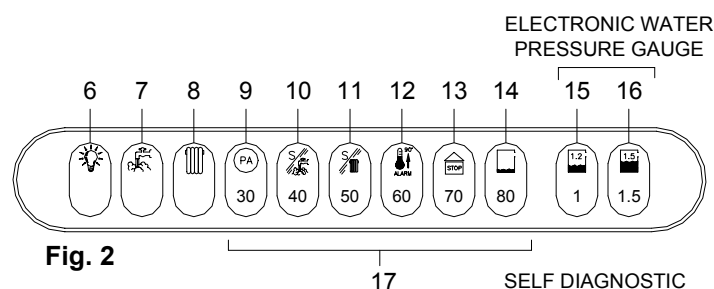
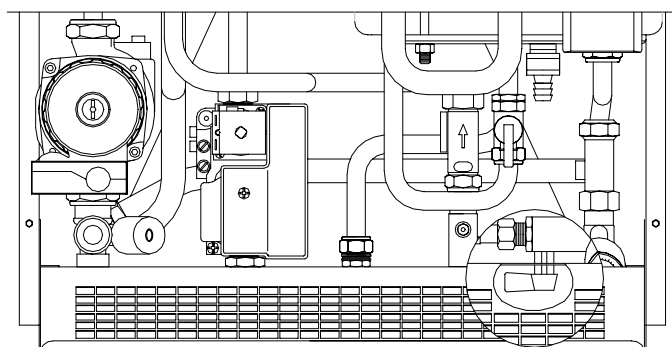

Fig. 2
Fig. 3
SELF- DIAGNOSTIC LEGEND (see fig. 2)
- turn selector switch 1 to the ❄ symbol denoting winter (see fig.2);
- make sure that 6 light is ON (see fig. 2) and the no.15 or no.16 lights are ON (see fig. 2); if light no.14 flashes, it means water deficiency in the system: open the filling tap located under the boiler (see fig. 3) and fill the system until a pressure of 1.5 bar has been reached (light no.16 ON; see fig. 2) and then close the filling tap.
- make sure that light 6 is ON (see fig. 2 pag. I) and the no.15 or no.16 lights are ON (see fig. 2 pag. I); if light no.14 flashes, it means water deficiency in the system: open the tap on the filling loop and fill the system until a pressure of 1.5 bar has been reached (light no.16 ON; see fig. 2 pag. I) and then close the tap.